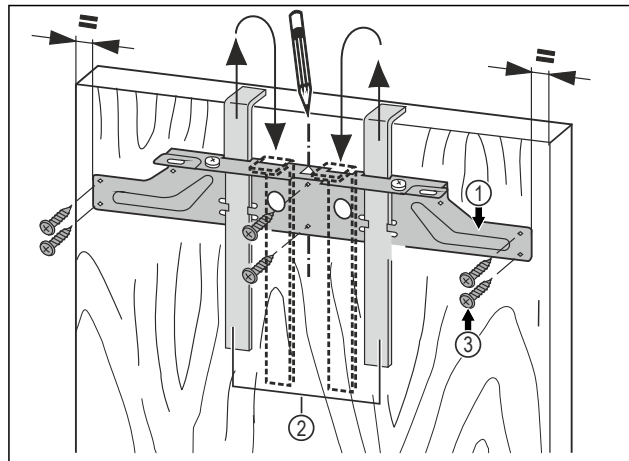

Fig. 44
- Hang the fastening bar Fig. 44 (1) with the mounting aids on the inside of the unit door Fig. 44 (2).
- Align the fastening bar Fig. 44 (1) in the centre of the door.
- Tighten the mounting bar Fig. 44 (1) with at least 6 screws Fig. 44 (3).
- Screw the mounting bar Fig. 44 (1) to the edge with 4 screws Fig. 44 (3).
- Pull the assembly devices Fig. 44 (2) upwards and push them, at an angle, into the receiving openings.